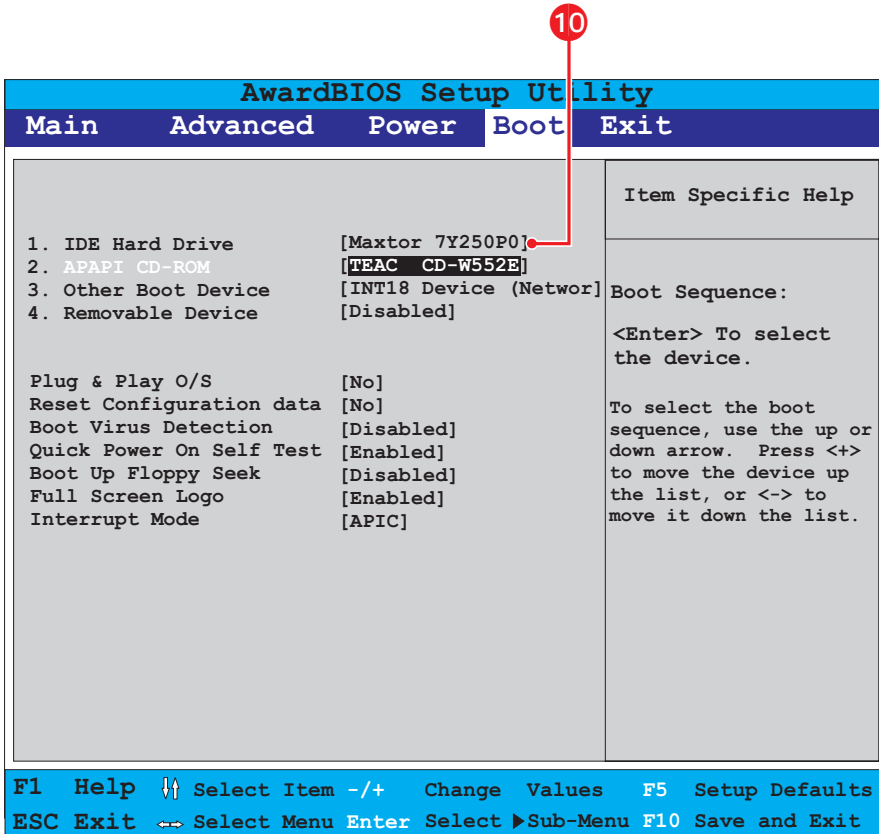

Figure 35. BIOS Boot Screen with Hard Disk Drive at Top
- Press the minus (-) key on your keyboard to change the boot sequence from the CD/DVD drive back to the hard disk. The screen should look something like the example in Figure 35.